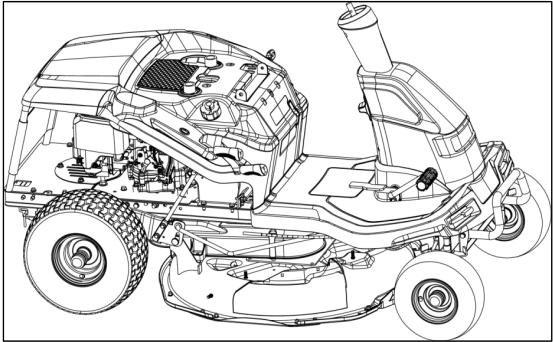
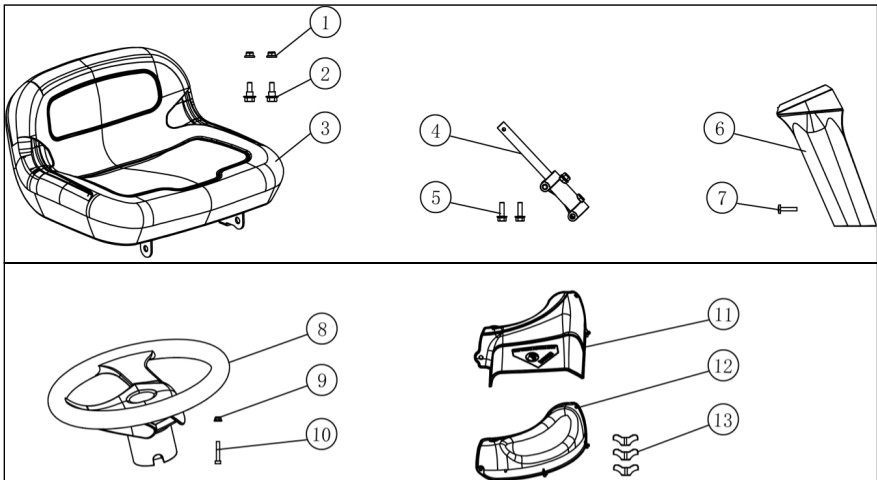
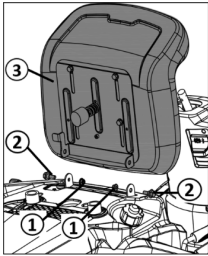
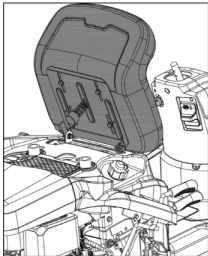

Figure 1: Main component for the ride on mower.
Figure 2: Ride on mower parts to be installed.
Figure 3
Figure 4
The ride on mower you received (Fig. 1) is incomplete and parts (Fig. 2) needs to be installed on the machine to be a complete ride on mower.
- 1. Install the operator's seat to the designated position of the ride on mower according to the method shown in Figure 3, and the installation status is shown in Figure 4. The numbers on the figures correspond to the part numbers listed in Figure 2.